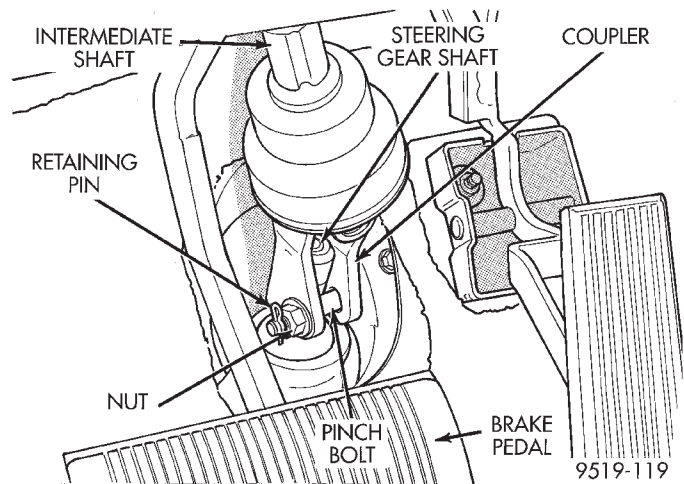

Fig. 6 Intermediate Shaft Coupler To Steering Gear Attachment
(2) Siphon as much power steering fluid as possible from the remote power steering fluid reservoir.
(3) From interior of vehicle, remove the retaining pin from the intermediate shaft coupler pinch bolt (Fig. 6). Then remove the pinch bolt (Fig. 6) from the intermediate shaft coupler and the separate intermediate shaft coupler, from steering gear shaft.
(4) Raise vehicle on jack stands or centered on a frame contact type hoist. See Hoisting in the Lubrication and Maintenance section of this manual, for the required lifting procedure to be used for this vehicle.